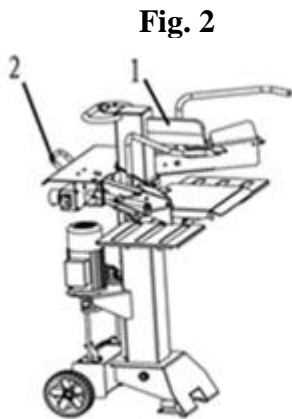

Fig. 2
4.4- Move the splitter (Fig. 2)